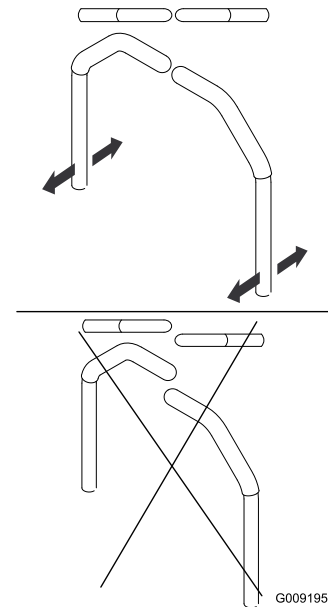

Figure 61
4. Align the levers in the front-to-rear position by bringing the levers together to the neutral position, and slide them until they are aligned, then tighten the bolts (Figure 61).